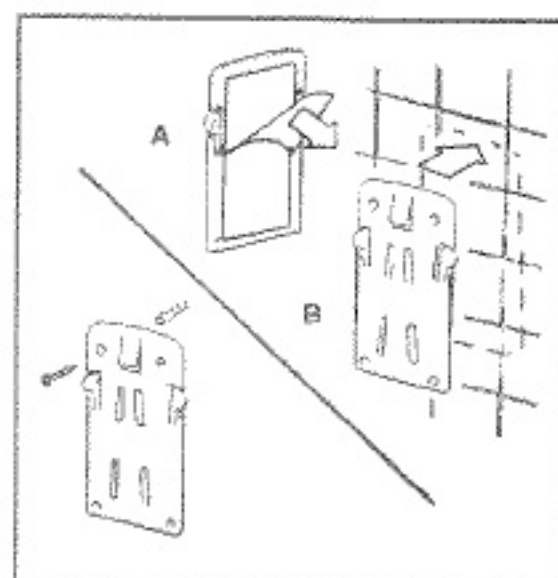

FIGURE 4
3. To mount wall bracket: Adhesive Method- Clean wall surface with alcohol swipe. Peel backing off of the wall bracket to expose double-sided tape. Press wall bracket firmly to the wall surface area desired for unit location. Note: Let dispenser set for 24 hours before filling reservoir. Mounting screws- Select desired area to mount Dispenser. Determine where holes need to be drilled and mark the wall surface accordingly. Drill holes in the wall. Insert wall plugs through the wall bracket and into dry wall. Insert screws into wall plugs (Figure 4).